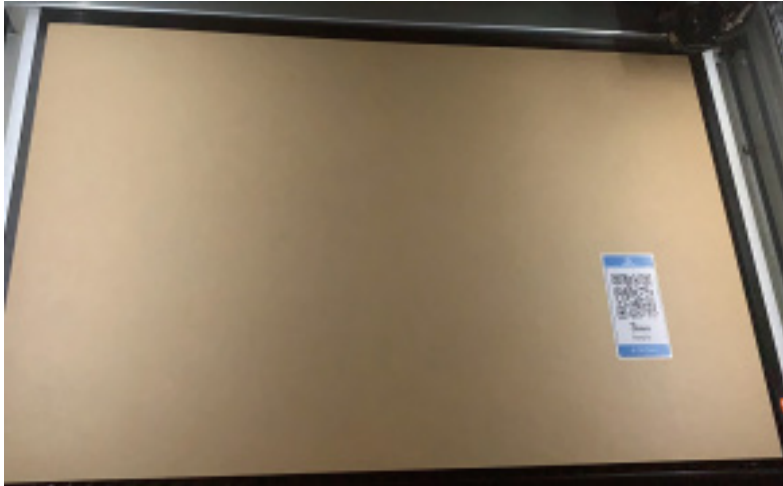

Figure 12
2) Spread a 3mm thick material board on the work table (as shown in Figure 12), close the cover, wait for the button light to automatically turn on green, and then click the button for processing.